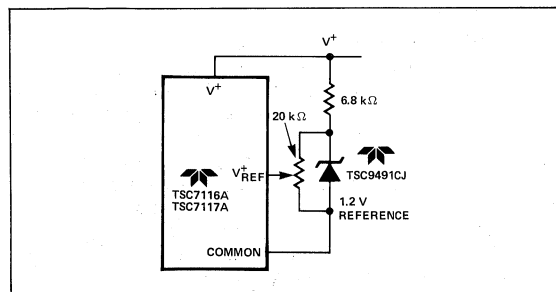

**Figure 3: Analog Section of TSC7116A/TSC7117A**
Figure 3 shows the Block Diagram of the Analog Section for the TSC7116A and TSC7117A. Each measurement cycle is divided into three phases. They are (1) auto-zero (A-Z), (2) signal integrate (INT) and (3) reference (REF).